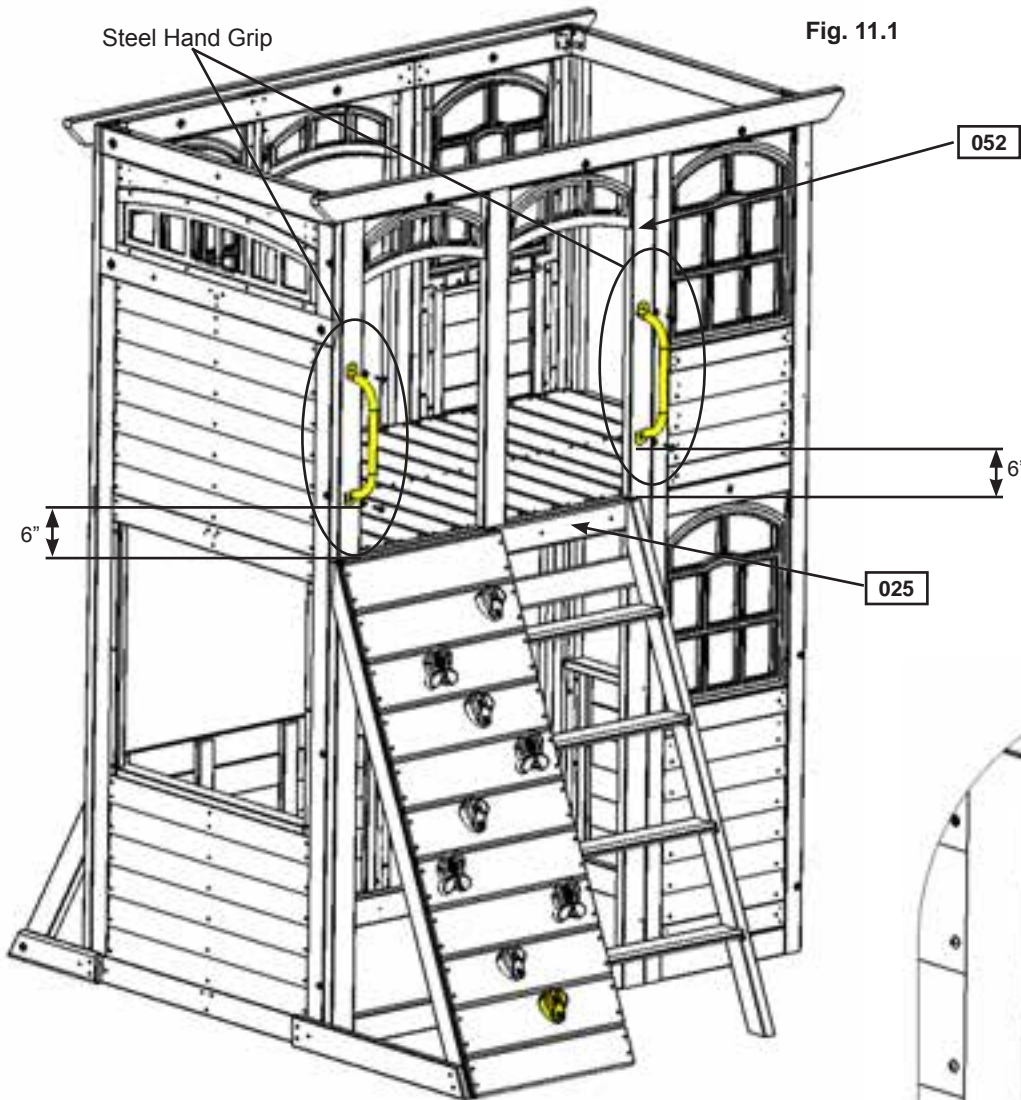

Fig. 11.1
**A:** Measure 6" from the top of (025) RW/AL Support on (052) Back Wall Panel in the 2 places shown below, pre-drill with a 1/8" drill bit then attach 2 Steel Hand Grips with 2 (WL3) 1/4 x 1-3/8" Wafer Lag (with flat washer) per Steel Hand Grip. (fig. 11.1 and 11.2)